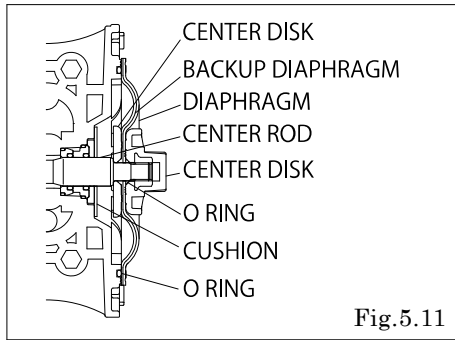

Fig.5.11
- PTFE Diaphragm model : Put the backup diaphragm before PTFE diaphragm, and O ring after PTFE diaphragm. (cf. Fig.5.11)